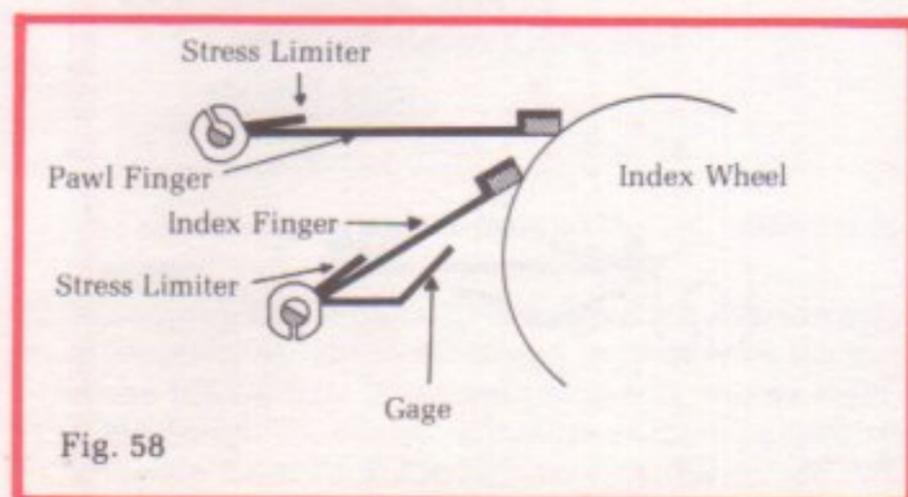

Fig. 58
5. **Stress Limiter** — observe the stress limiters on index and pawl fingers (Fig. 58). Check that no more than one-third (1/3) of the length of the stress limiter is in contact with the index or pawl finger. Also, check that end of stress limiter is no more than three thicknesses of the stress limiter away from index or pawl finger. If adjustment is necessary, use tweezers to bend stress limiter; then repeat Steps 3 and 4.